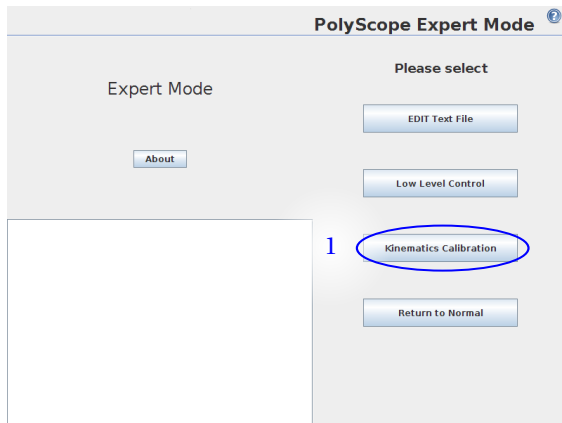

Figure 2.2: Select "Kinematics Calibration" in "Expert Mode" to get access to the functionality.
The starting point for the tutorial steps is the expert screen as shown in figure 2.2.
- (1) The functionality can be found in the "Expert Mode" on the controller screen by pressing the "Kinematics Calibration" button as illustrated in figure 2.2.